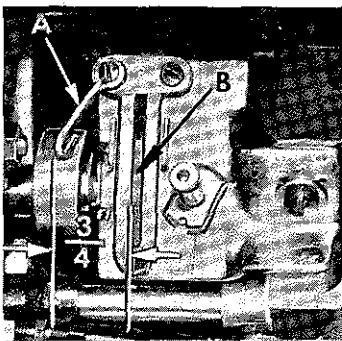

Fig. 13
Set the looper thread guide eyelet (A, Fig. 13) so its left outer surface is  $\frac{3}{4}$  inch from the left side of the looper thread take-up (B), (See Fig. 13).